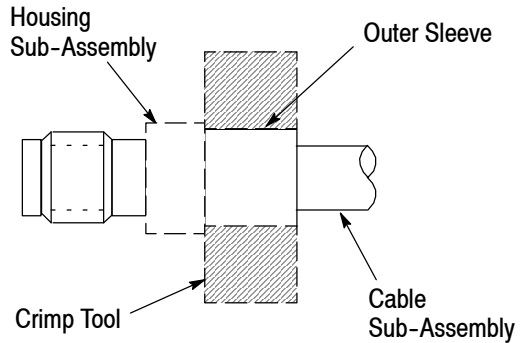

Figure 6
3.4. Crimp Cable Sub-Assembly to Housing Sub-Assembly (Figure 6)